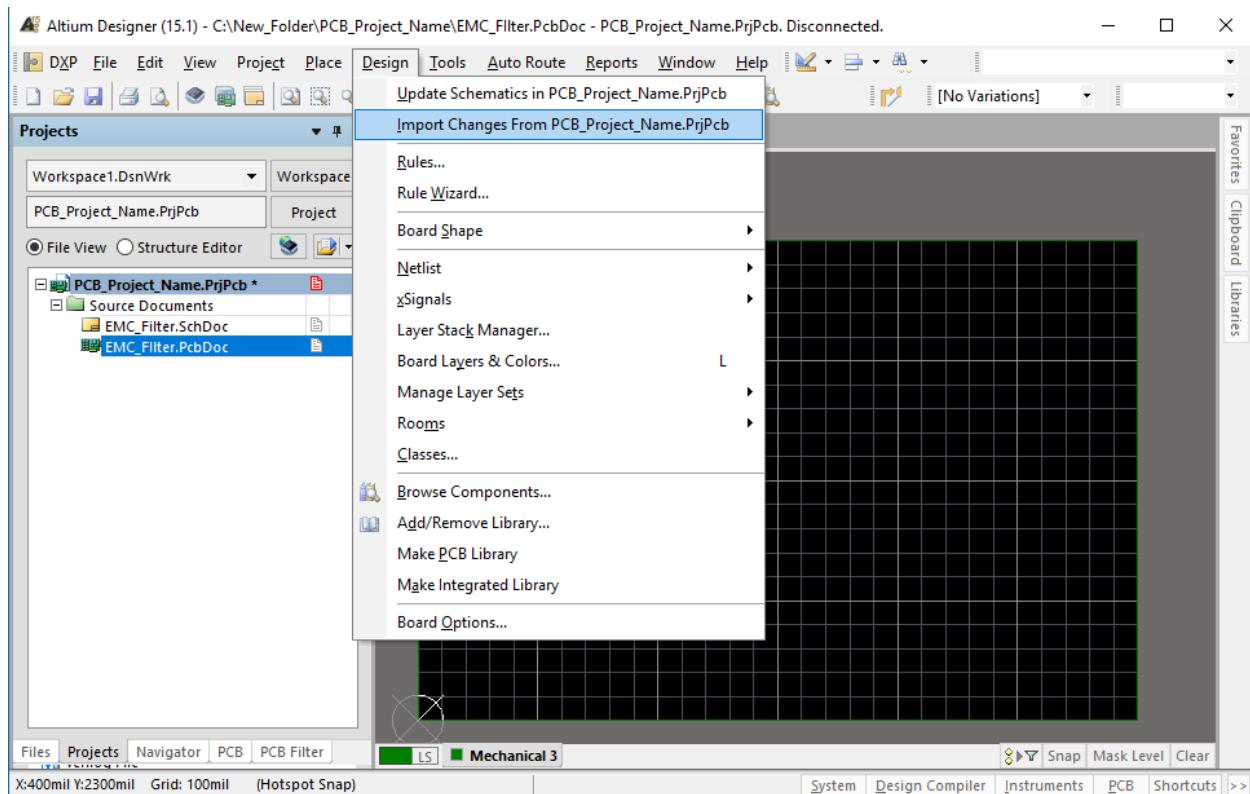

Figure 78: Altium PCB Import Changes From PCB Project.
48. After, touching slightly rules and layer stacks lets import the schematic drawn previously in menu bar chose Design → Import Changes from [Project name] ..., as shown in Figure 78. The Engineering Change Order dialog appears as shown in Figure 79. First un-check the Room so it will not be added to the PCB document, a room is used only in PCB design document and is useful for bigger designs and repeated designs. Further more notice the added Component class and the added Net Class named TML_cn which was created with a class name directive in the schematic. Each component or net that has been drawn in in the schematic will be imported to do so press Validate Changes and then Executed Changes assuming no error occurs. Close the dialog and your screen should look as shown in Figure 80, notice that you do not see much because most layers are disabled to show them press L and turn All Layers On and hide the Mechanical 3 layer because it is not longer used except you want to change the board shape.